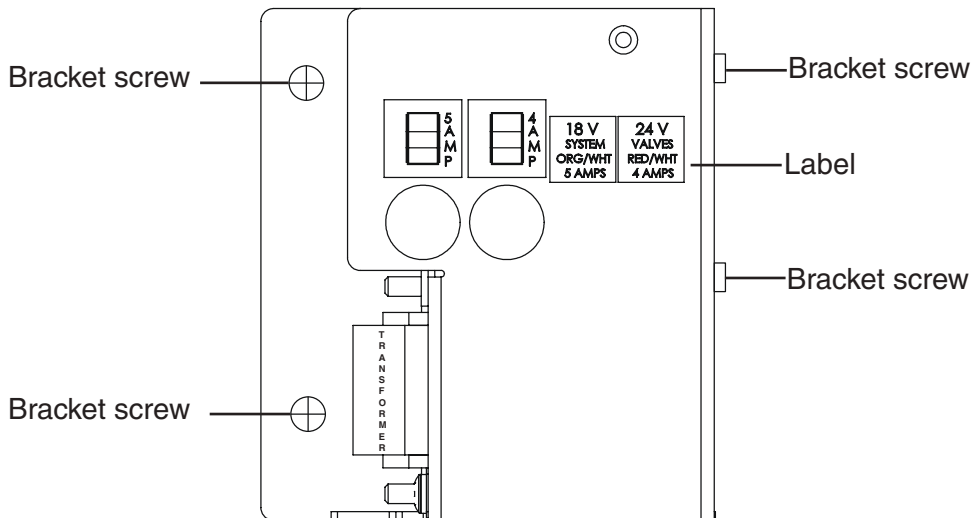

Figure 5. Transformer Bracket Assembly
4. Install the circuit breaker bracket with the circuit breakers and system transformer onto the enclosure, and secure it with two side screws and two screws on the back of the enclosure. See Figure 5 on page 7.